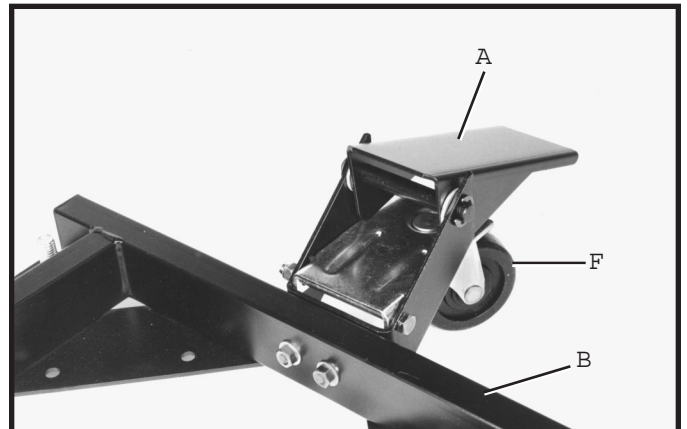

Fig. 6
3. Fig. 6, illustrates the caster assembly (F) and foot lever assembly (A) fastened to the mobile base (B).